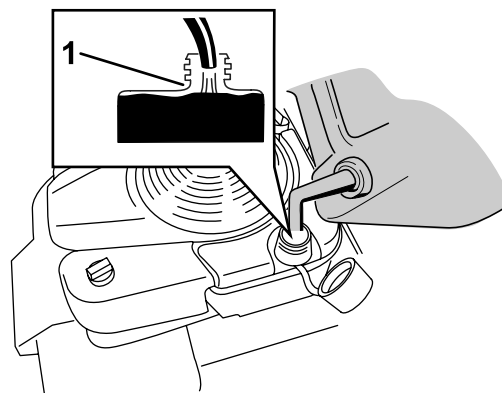

Figure 11
1. Clean around the fuel-tank cap and remove the cap from the tank (Figure 11).